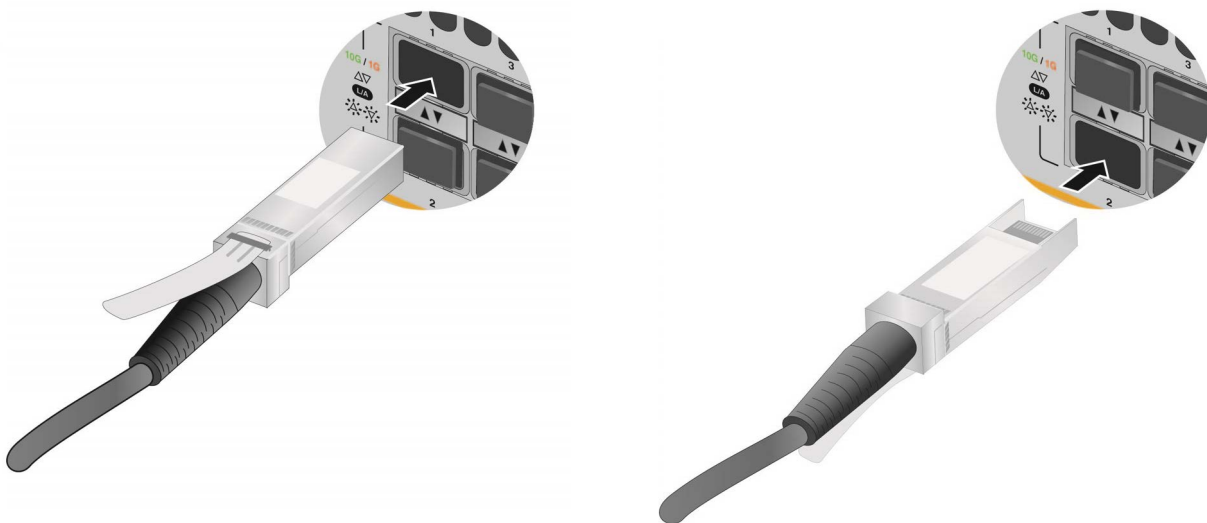

Figure 69. Installing AT-SP10TW Cables
3. To install the transceiver in a slot in the top row, position the transceiver with the Allied Telesis label facing up. To install the transceiver in a slot in the bottom row, position the transceiver with the label facing down. Refer to Figure 69.